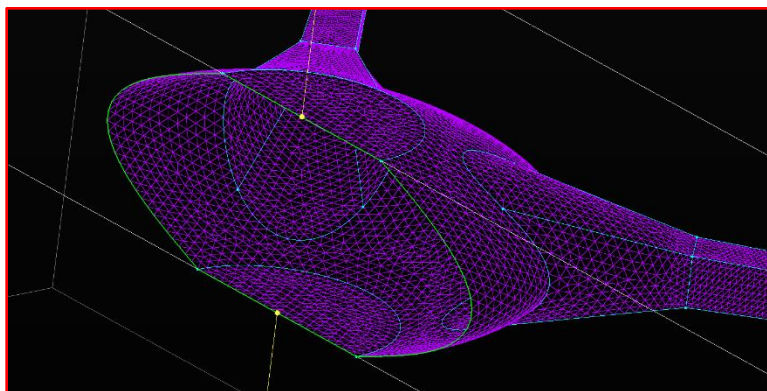

Figure 7: The symmetry edge in the surface grid is automatically recognized and rendered in green for easy visualization.
14. Also note that the symmetry edge on the surface grid is rendered green (Figure 7).